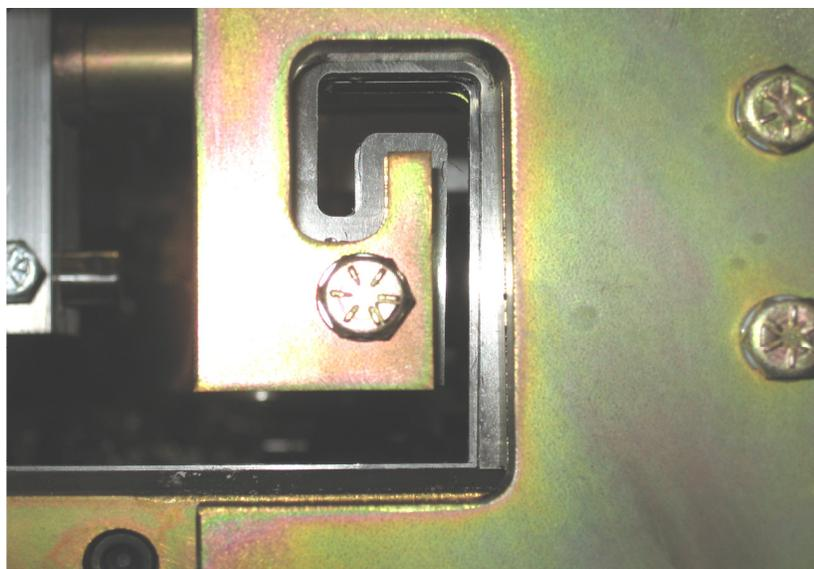

Figure 62: Exit Die Adjustment
32. Adjust the male and female exit dies so that they are offset to the outside of the entry die by approximately 1/64” and lock down the two “C” bolts (Figure 62) on each assembly. *This offset is necessary so that after a cut is made, the leading edge of the panel does not hang up on the exit die.*